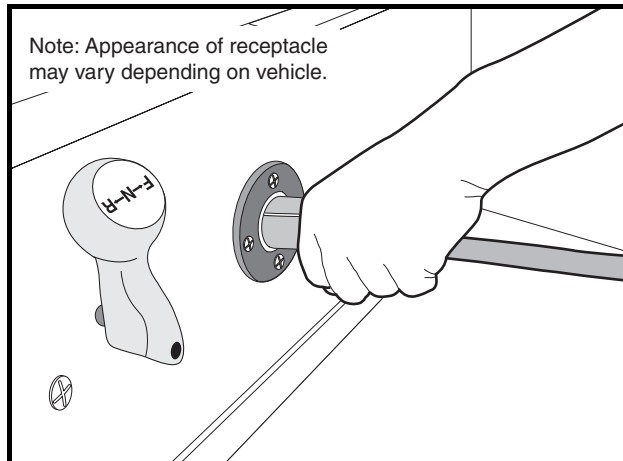
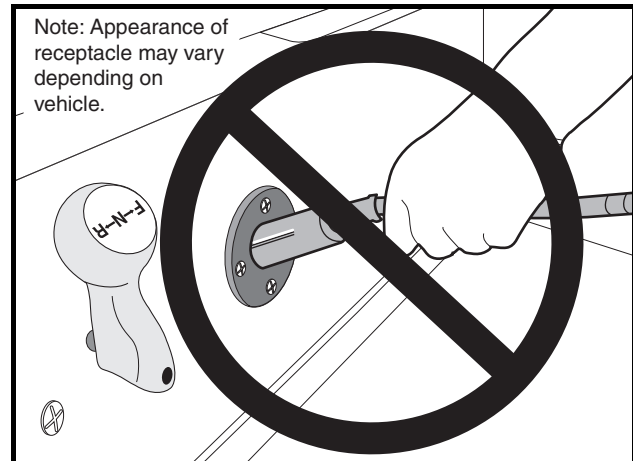

Figure 3-7 Charger Receptacle
Figure 3-8 Incorrect DC Plug Removal
- The battery charger DC plug must be pulled slowly from the receptacle (Figure 3-7, Page 3-9). Jerking or pulling the DC cord out quickly could cause arcing that could damage the plug and receptacle and could cause batteries to explode (Figure 3-8, Page 3-9).
- **The charger plug must be pulled slowly from the receptacle (Figure 3-7, Page 3-9). Jerking or pulling the DC cord out quickly could cause arcing and burning that could damage the plug and receptacle and could cause batteries to explode (Figure 3-8, Page 3-9).**
- Do not rock or bend the plug. To connect the charger plug to the vehicle receptacle, grasp the plug handle and push the plug straight into the receptacle (Figure 3-7, Page 3-9).
- Do not pull on the DC cord (Figure 3-8, Page 3-9). Do not twist, rock or bend the plug. To disconnect the charger plug from the vehicle receptacle, grasp the plug by the handle and pull the plug straight out of the receptacle.
2. Connect the charger DC plug to the vehicle charger receptacle located on the seat support panel (Figure 3-7, Page 3-9). The charger will activate automatically within 2 to 15 seconds after the DC plug is connected. See following WARNING.
- Do not rock or bend the DC plug. To connect the charger plug to the vehicle receptacle, grasp the plug handle and push the plug straight into the receptacle (Figure 3-7, Page 3-9).